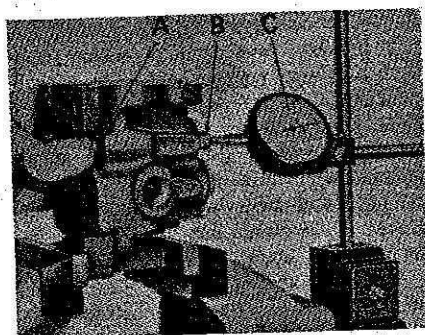

Fig. 200—View showing dial indicator being used to adjust spool valve; refer to text for procedure.
Clamp control valve assembly in soft jawed vise and mount dial indicator plunger against adjusting nut end of spool valve as shown in Fig. 200. Push opposite end (A) of spool valve inward to fully compress thrust spring and zero dial indicator with valve at this position. Release spool